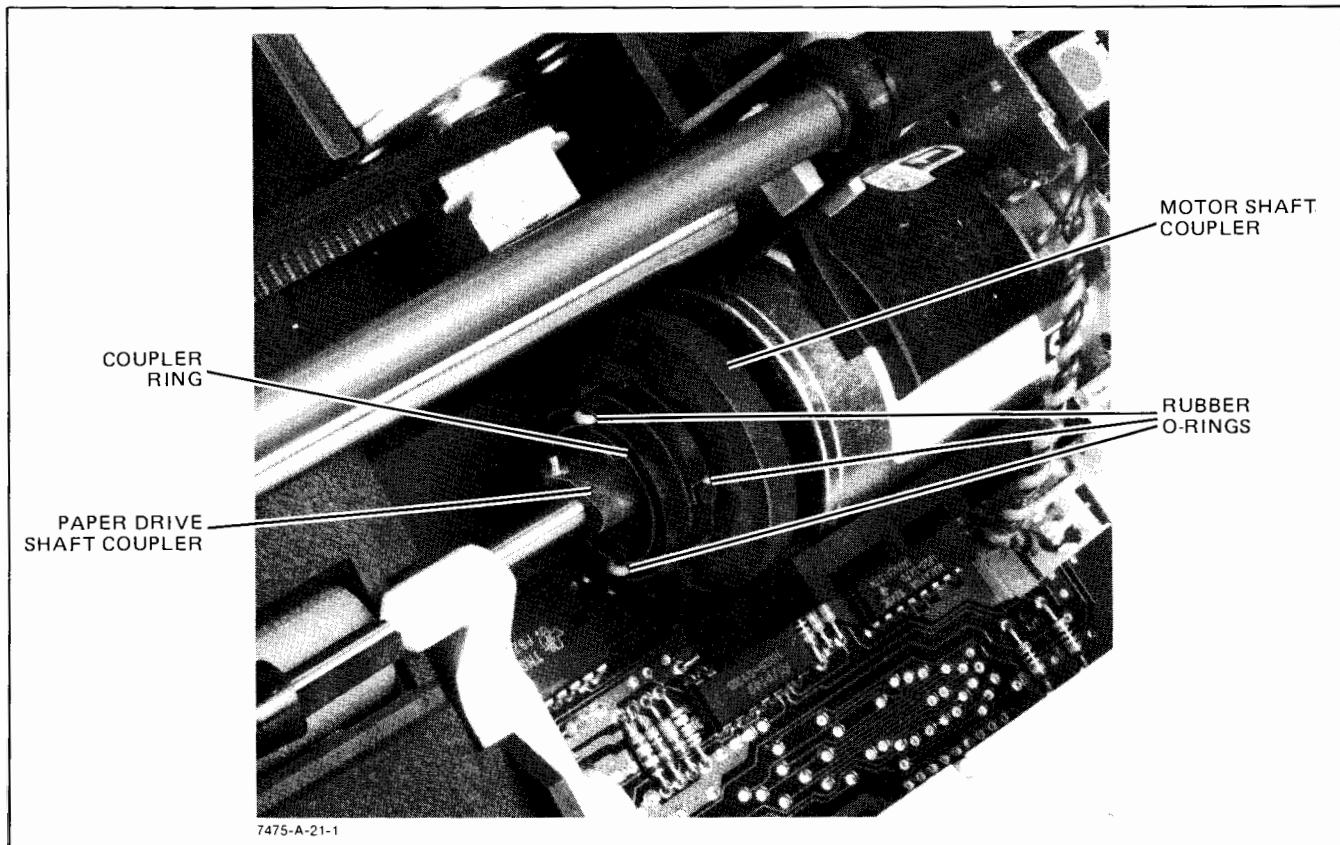

Figure 6-12. Paper Drive Coupler Parts
- e. When replacing the motor, make sure that the rubber O-rings on the drive shaft coupler and the motor shaft coupler fit inside the grooves of the coupler ring, and the boss (key) on the underside of the motor casting fits into the corresponding hole in the chassis. See Figure 6-12.
- e. When replacing the motor, make sure that the O-rings on the drive shaft coupler and the motor shaft coupler fit inside the grooves of the coupler ring, and the boss (key) on the underside of the motor casting fits into the corresponding hole in the chassis. See Figure 6-12.